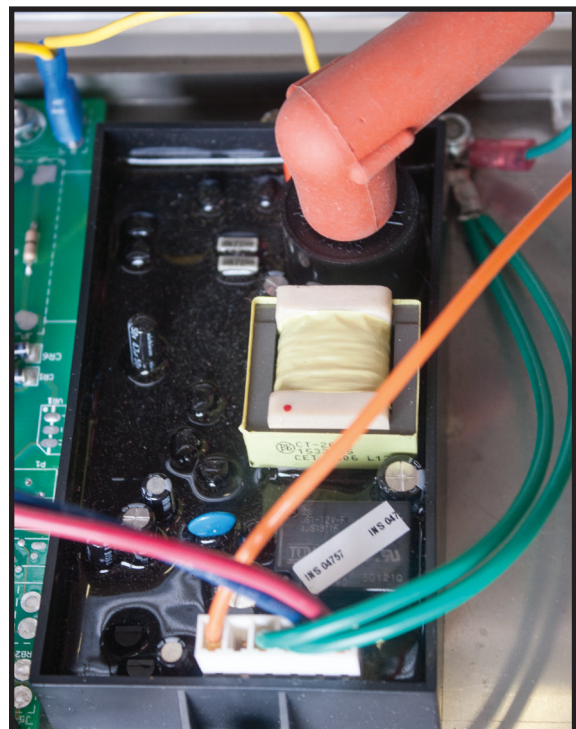

Fig 7.3F
3. Locate the module and remove wires (Fig 7.3F).